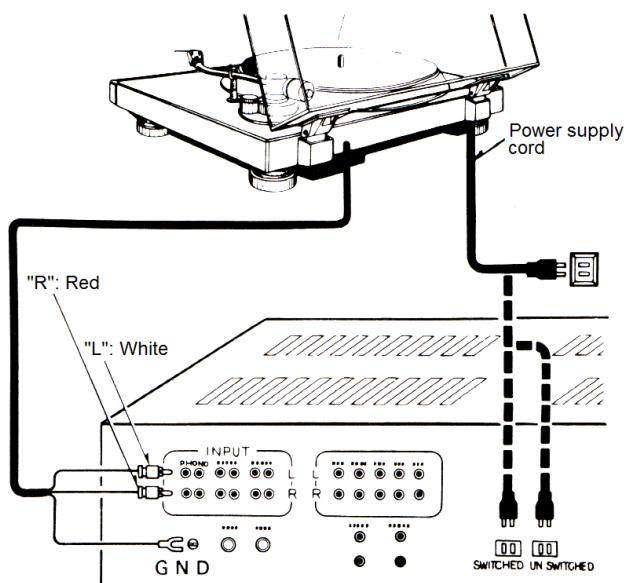

Fig. 8 Connection
- (1) Connect the L and R pin plugs of output cord to the L and R "phono" inputs of the amplifier to be used. (Fig. 8)
- (2) Plug in the power supply cord to AC receptacle. (Or else, if AC outlet is provided on your amplifier connect the power supply cord thereto, referring to Fig. 8. Make sure at this time that the power capacity of the outlet is sufficient.)